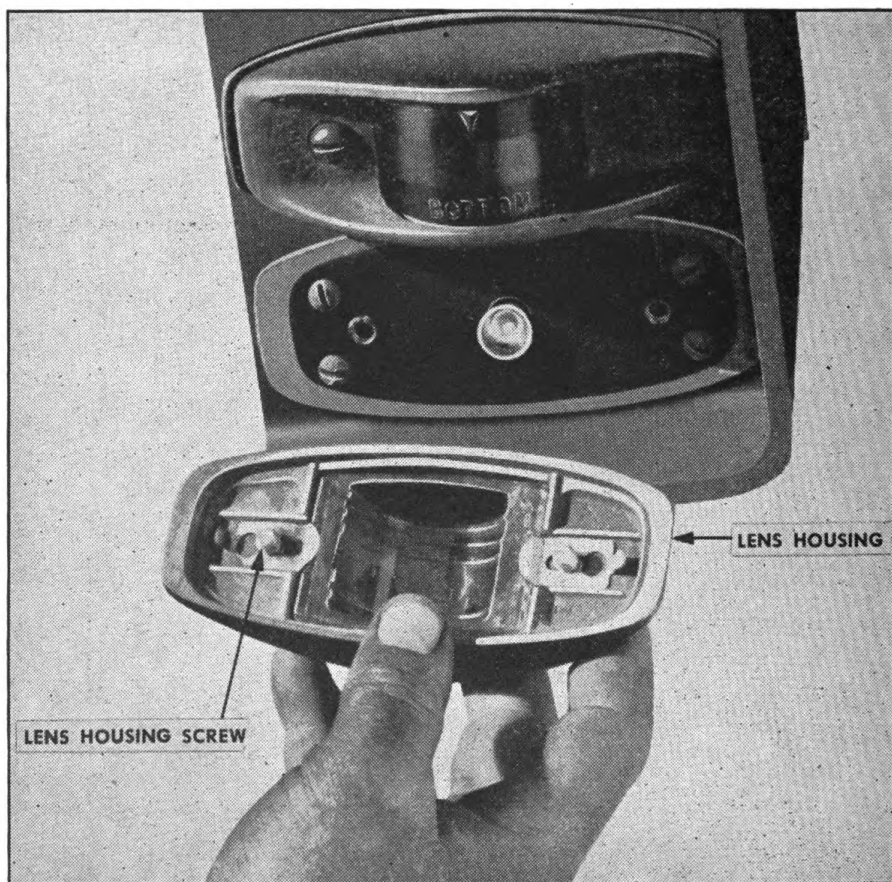

FIGURE 54. CLEARANCE LIGHTS—DISASSEMBLY, STEP 1.
5. CLEARANCE LIGHTS DISASSEMBLY.—a. Turn the two screws holding lens housing to light assembly in a counter-clockwise direction until housing is free of assembly (Fig. 54).